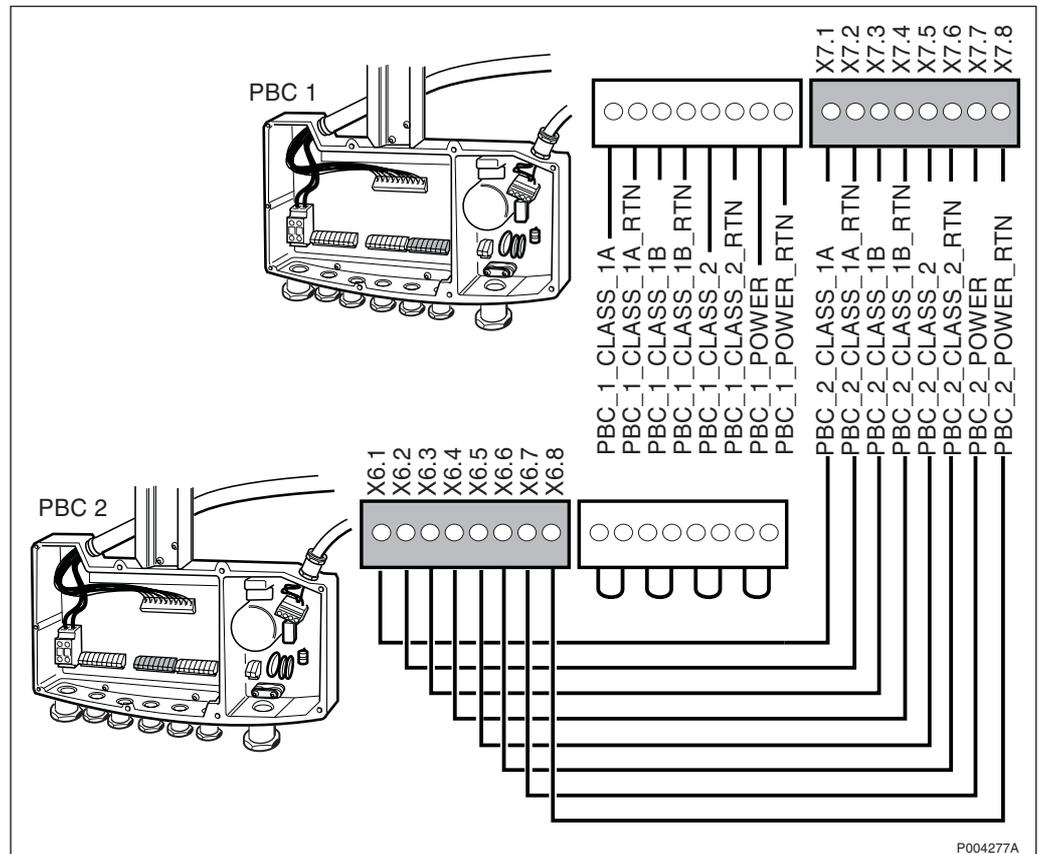

Figure 278 Alarm termination block PBC 2 to PBC 1 and further to the RBS
6. Mount the alarm wires from PBC 3 to PBC 2 the same way as picture above, see Figure 278 on page 231.